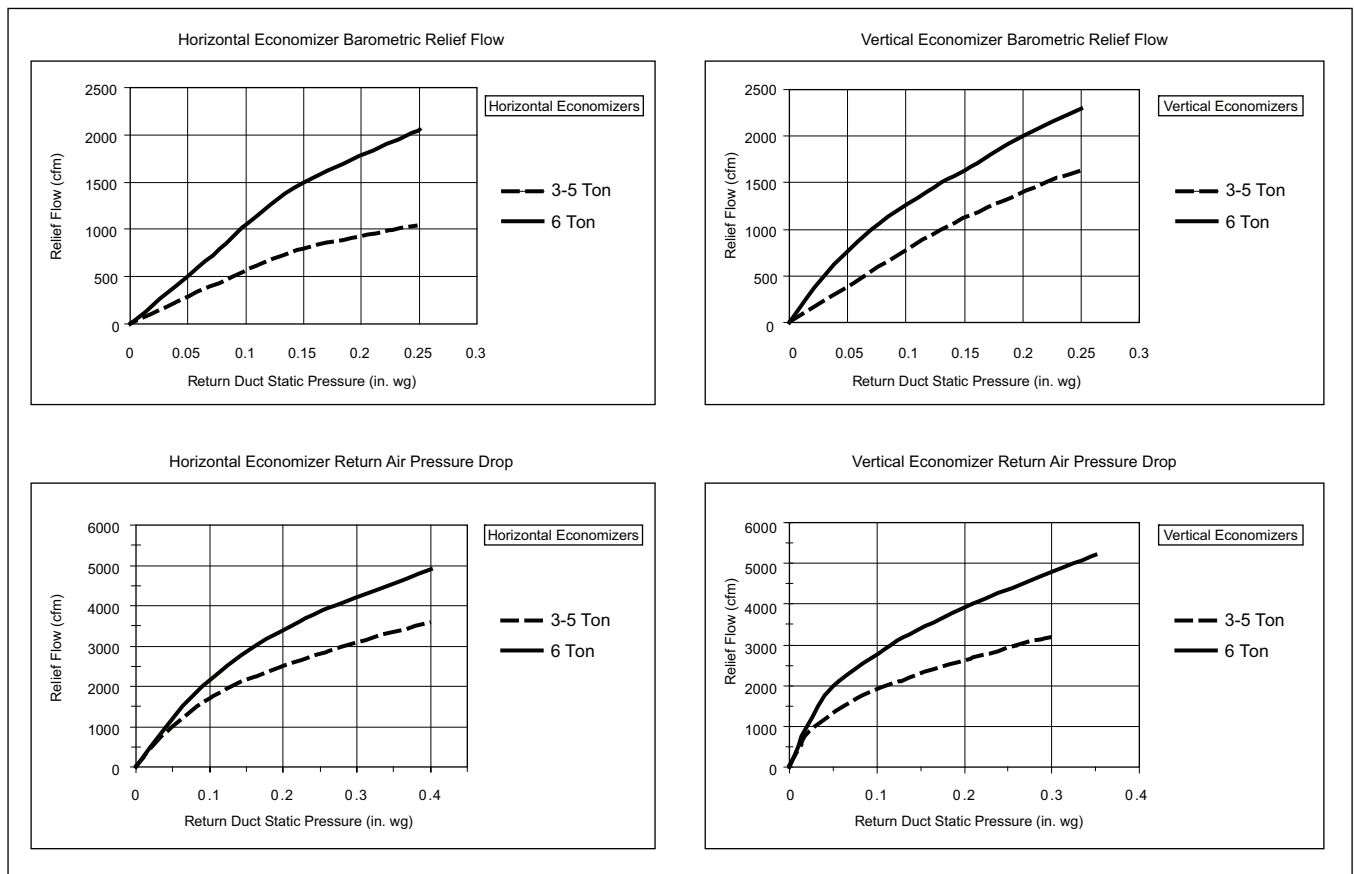

Fig. 65 — Outdoor-Air Damper Leakage
The standard controller is shipped from the factory configured for outdoor dry bulb changeover control. For this control mode, the outdoor temperature is compared to a selectable set point on the OAT sensor. If the outdoor air temperature is above the set point, the EconoMiSer IV will adjust the outdoor air dampers to minimum position. If the outdoor air temperature is below the set point, the position of the outdoor air dampers will be controlled to provide free cooling using outdoor air. When in this mode, the Free Cool LED next to the outdoor enthalpy set point (ABCD) potentiometer will be on. The changeover temperature set point is controlled by the DIP switches on the sensor. See Fig. 64 for the switch positions corresponding to the temperature changeover values. The ABCD potentiometer on the controller should be turned fully clockwise (CW) to the “D” position. See Fig. 65 for damper leakage.